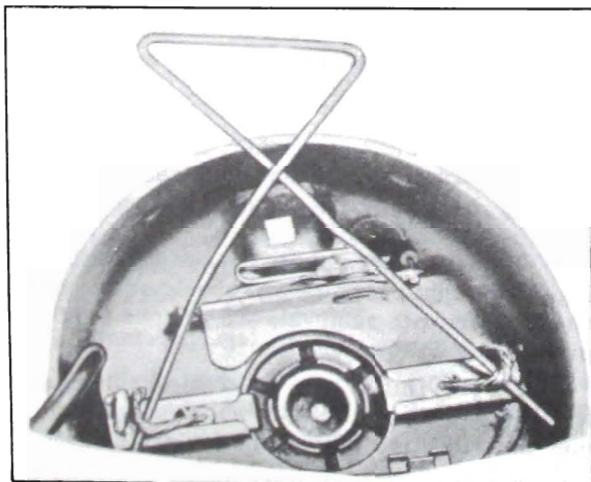

Figure 1-25—Holding Brush Leads
5. To separate armature from case while still retaining the brush springs and brushes in place, fashion a spring similar to that shown in Figure 1-25 and insert behind the brush leads as shown.